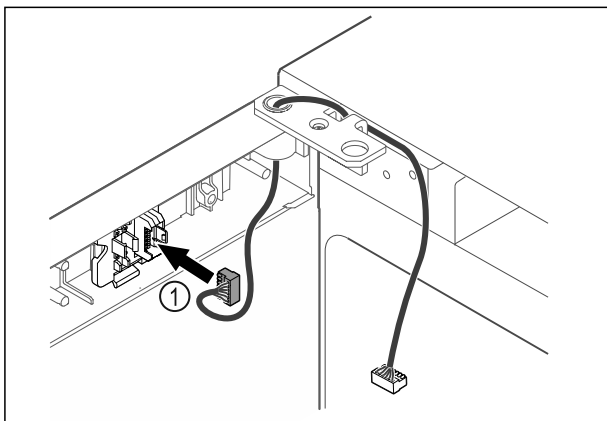

Fig. 44
- ▶ Put the plug Fig. 44 (1) in the plug holder.